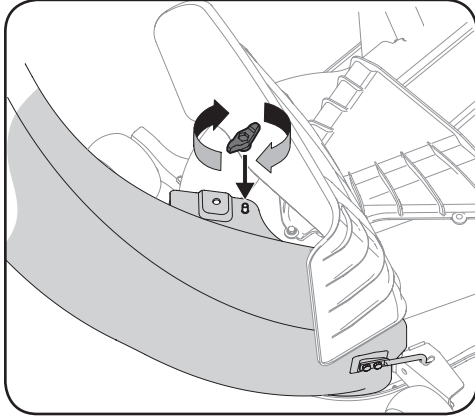

Figure 4-28
- Secure the discharge chute elbow to the cutting deck using a (720-04122) wing knob included in hardware pack 689-01419. Refer to Figure 4-28.